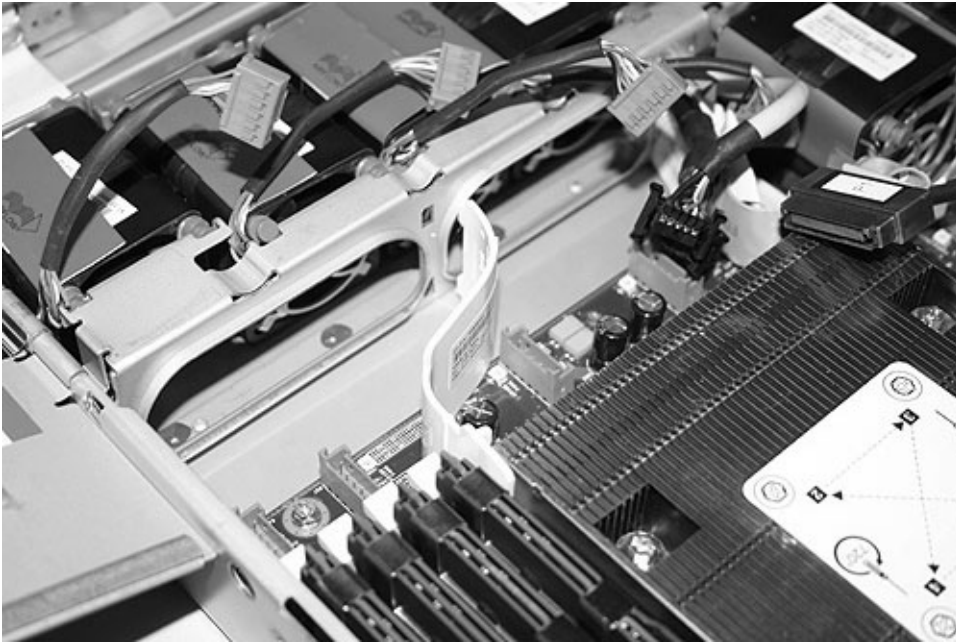

Figure 289. Right air baffle on the SAN Volume Controller 2145-8G4 system board
9. Replace the right air baffle, which is shown in Figure 289 on page 264.